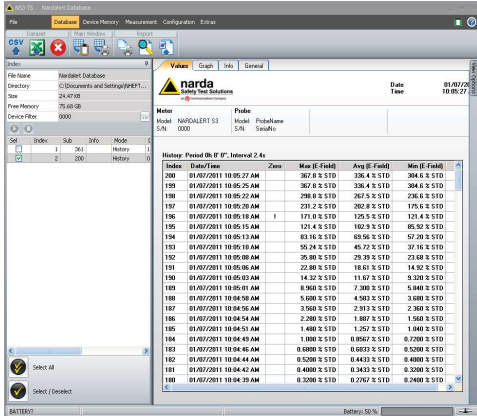
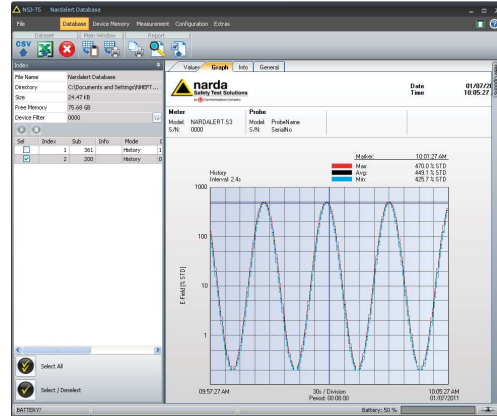

Figure 1
Figure 2
The Nardalert S3 software (NS3-TS) is supplied standard with every unit. Readings can be downloaded and displayed numerically (Figure 1) or graphically (Figure 2) by simply installing the software and plugging in the supplied USB cable.
2. **Database** – Database management of files stored on computer (Figures 1 and 2)